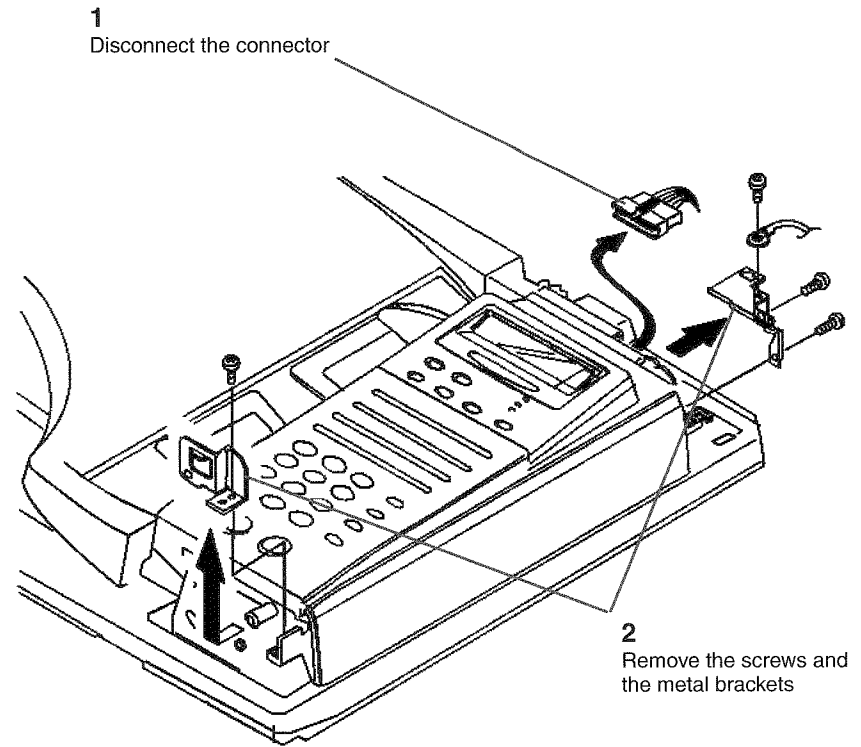

Figure 2 Preparing to remove the SDF Feed Assembly
2. (Figure 2): Prepare to remove the SDF Feed Assembly.